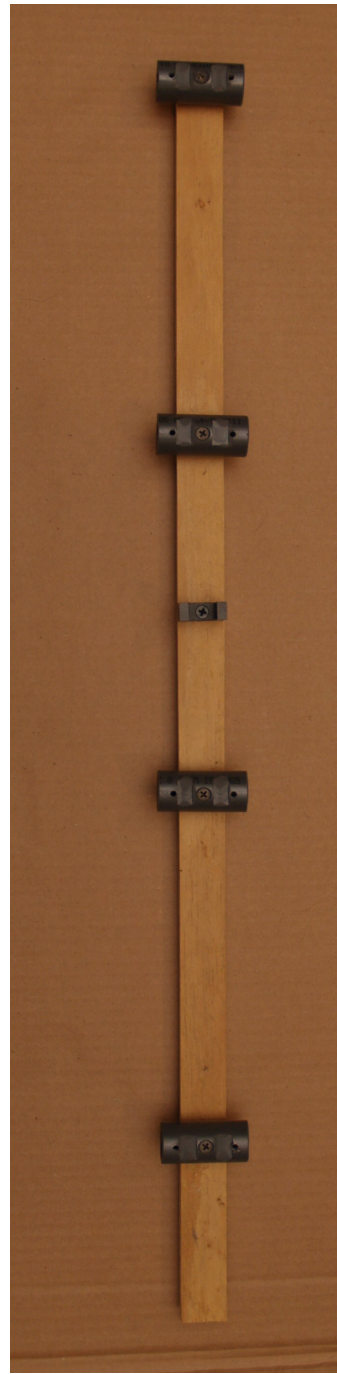

Figure 2
Attach the feed point stand-off in the center first then attach the (4) round PVC stand-offs in the remaining spots. See figure 2 for details